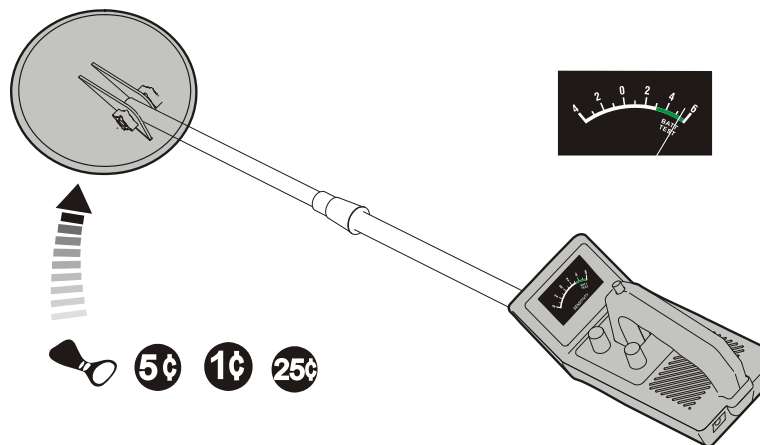

Figure.10
- Let other nonferrous metals approach the search coil,the meter pointer will deflect to the right,and the sound will turn louder. (Figure.10)